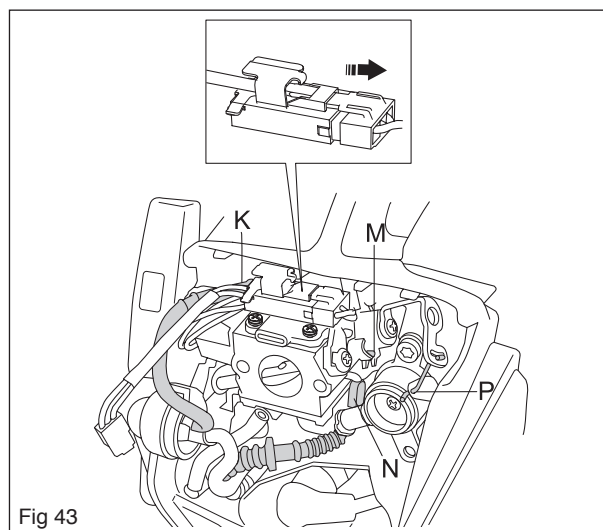

Fig 43
Use a small flat screwdriver to unsnap the connector. Then loosen the suction hose (K), the throttle cable (M) and the fuel hose (N) from the carburettor. Unhook the link arm (P) from the air valve. See Figure 43.